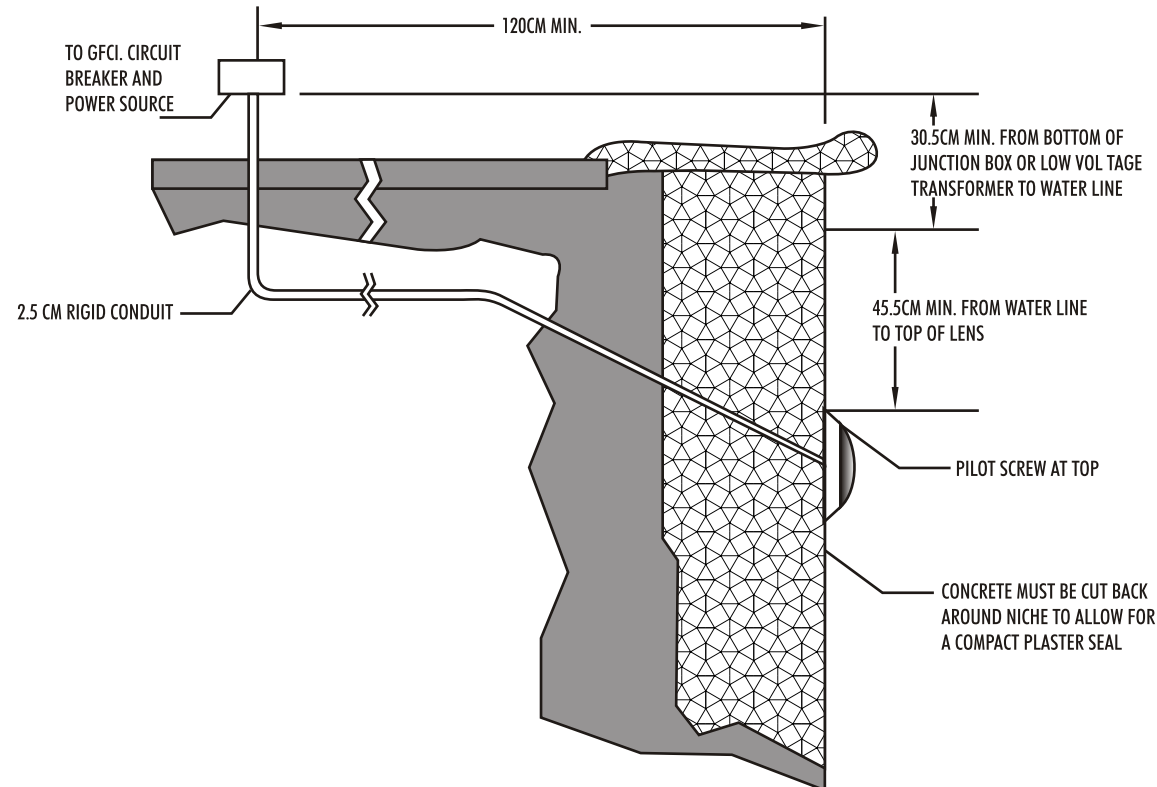

Figure 1.
A. Preparatory steps which must be completed by the electrician before light is installed, see Figure 1.
- b. The junction box, or the low voltage transformer for 12 volt models, is located at least 30.5CM above water level and at least 120CM from the edge of the pool, see Figure 1.
- d. The mounting bracket must be properly installed so that the top edge of the Underwater Light's lens is at least 45.5CM below the surface of the water in the pool. Top of lens corresponds to center of center of Plastic Mounting Hub. see Figure 1.